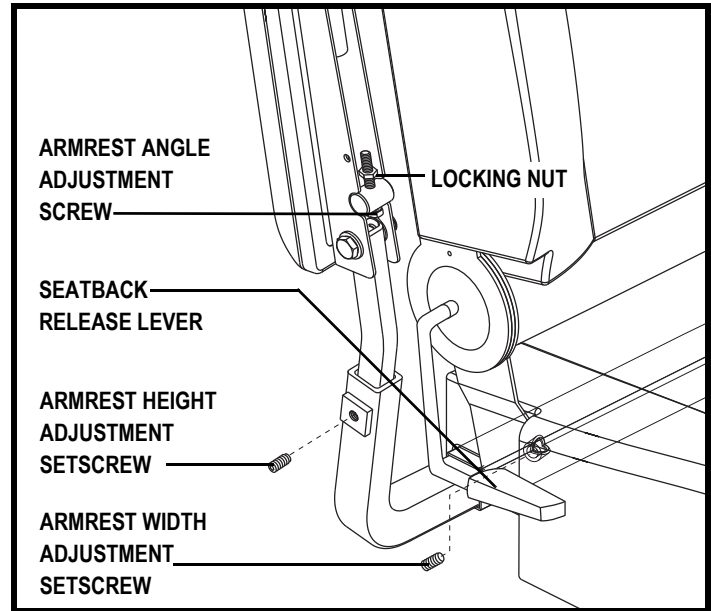

Figure 14. Armrest and Seatback Adjustments
If your power chair is equipped with a manual recline seatback, you can adjust the seatback angle with the seatback release lever. The lever is located on the right side of the seat base. See **figure 14**.
1. Locate the armrest width adjustment knob on each side of the armrest receiver bracket. See **figure 14**.
1. Loosen the setscrew on the armrest. See **figure 14**.